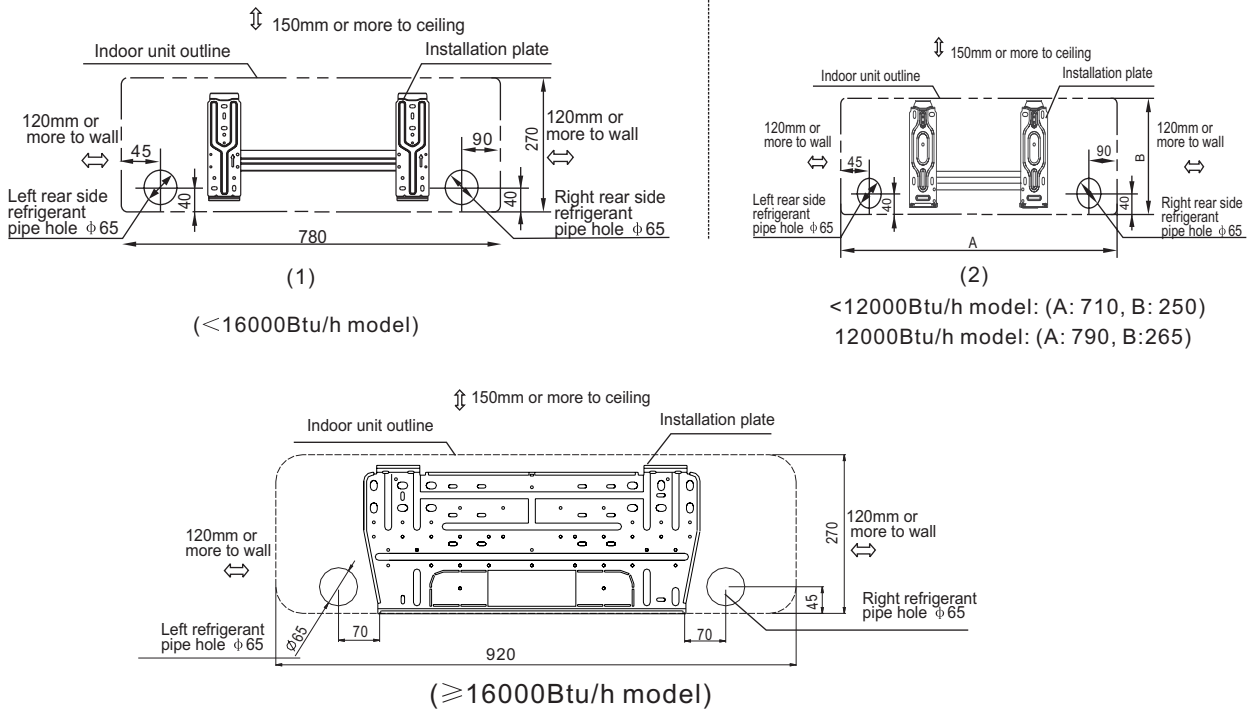

Fig.5
1. Determine hole positions according to the diagram detailed in Fig.5. Drill one (1) hole ( $\phi 65\text{mm}$ ) slanting slightly to outdoor side.